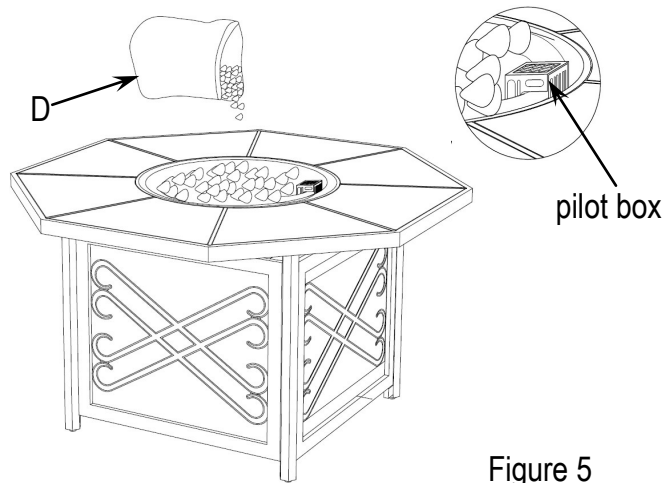

Figure 5
4. Put the Lava Rock (D) around the burner, then remove the label from the pilot box (see Figure 5). A gas fire pit requires 15.4 lbs lava rock.